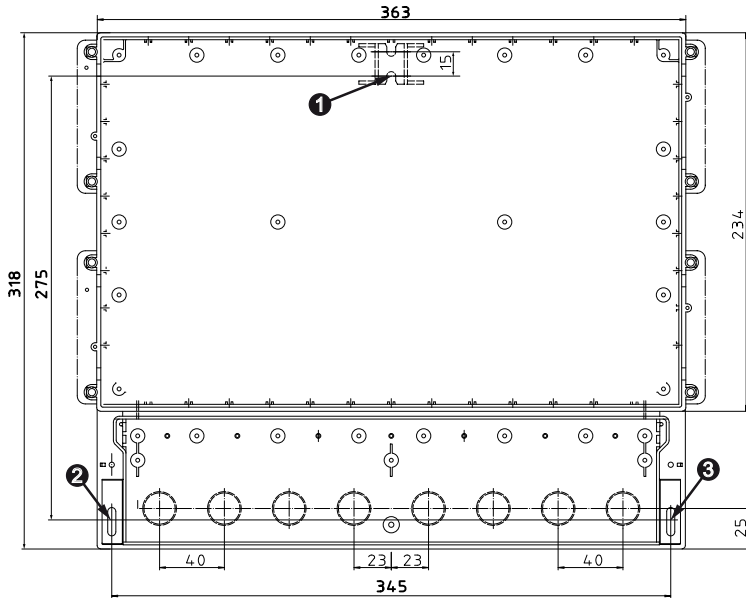

Fig. 5: Rear side of the device with the upper ❶ and lower ❷ ❸ mounting holes
2. ➞ Screw in the screw for the upper mounting hole ❶ (Fig. 5) so that the screw head protrudes 4 mm from the mounting surface.
4. ➞ Mark the lower mounting holes ❷ and ❸ through the casing.
6. ➞ Hang the device on the upper mounting hole ❶ and screw in place using the screws through the lower mounting holes ❷ and ❸.